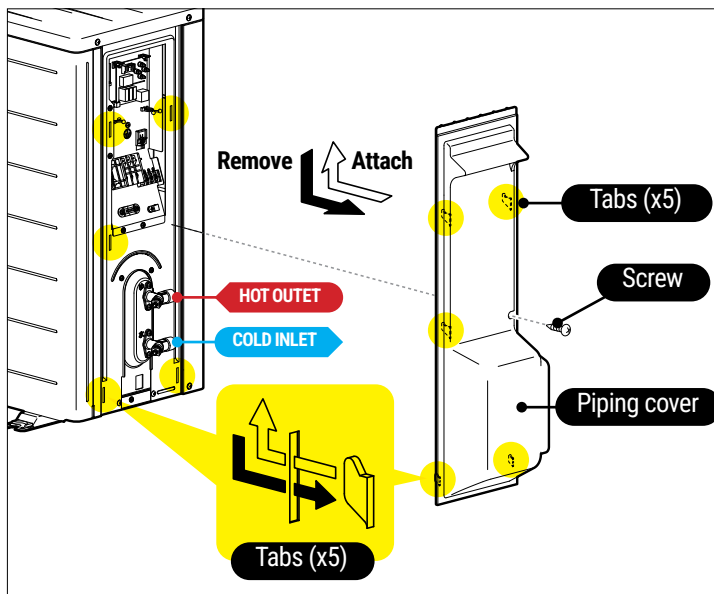

Figure 25. Heat pump piping cover
- After removing the right-side piping cover of heat pump unit, the heat pump cold inlet and hot outlet pipes (connection ports) will be accessible as shown in *Figure 25, page 20*.